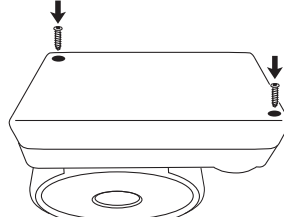

Fig. 8 Insert and tighten the two screws to attach the new terminal box cover
1. Insert and tighten the two screws at the corners of the outside of the pump's old terminal box lid. See fig. 8.